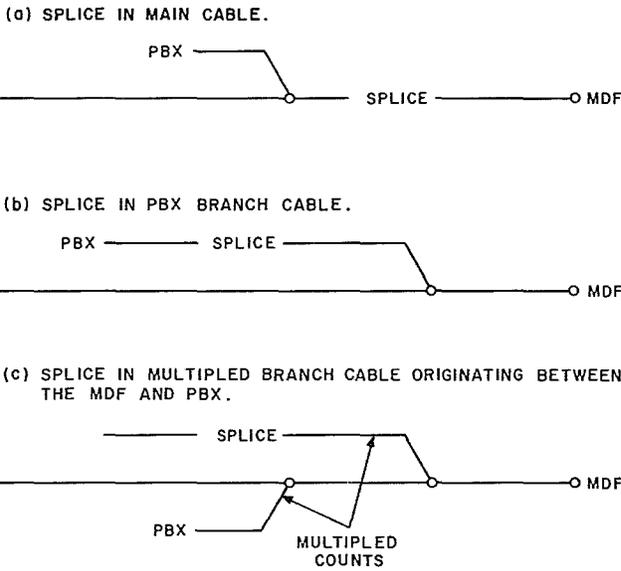
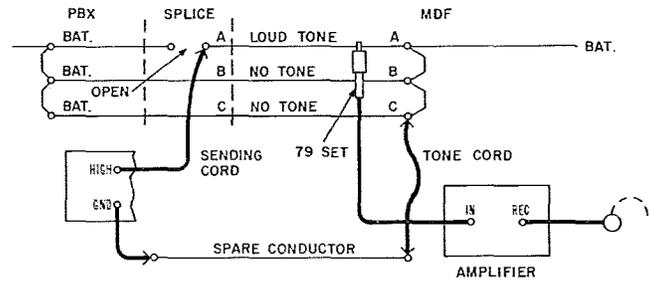

Fig. 7—Typical Arrangements of Splice Between PBX and Central Office
Fig. 11—Open Conductor With Tone at Splice
If the splice is located between the PBX and the central office, (Fig. 7, a, b, or c) it may be easier to identify the strapped conductors at the main frame.
2.11 If the splice is in the main cable or in the branch cable feeding the PBX with strapped battery conductors, the conductor on which tone is sent can be opened temporarily at the splice to clear it from the strap at the PBX. Loud tone should then be heard on only one conductor at the main frame (Fig. 11). If the splice is in a multiplied branch, as shown in Fig. 7(c), opening the conductor will not clear it from the strap at the PBX.